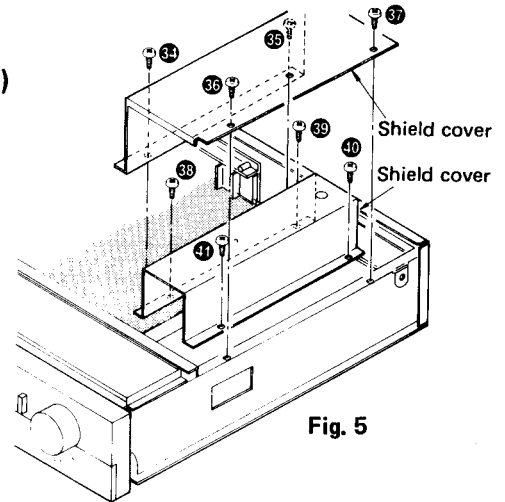

Fig. 5
2. Remove the 8 setscrews [Fig. 5: ③④ ~ ④①] of shield cover.